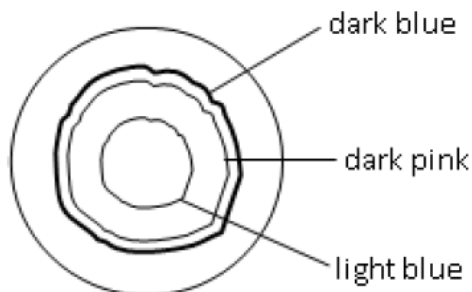

Fig 2.2
- (a) The chromatogram, Fig 2.2, was obtained when water was added to a drop of elderberries extract at the centre of a filter paper.